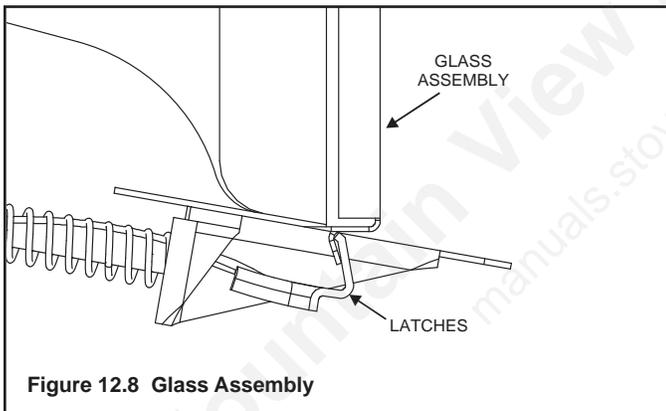

Figure 12.8 Glass Assembly
- Unlatch the two latches at the bottom of the glass door (see Figure 12.8).